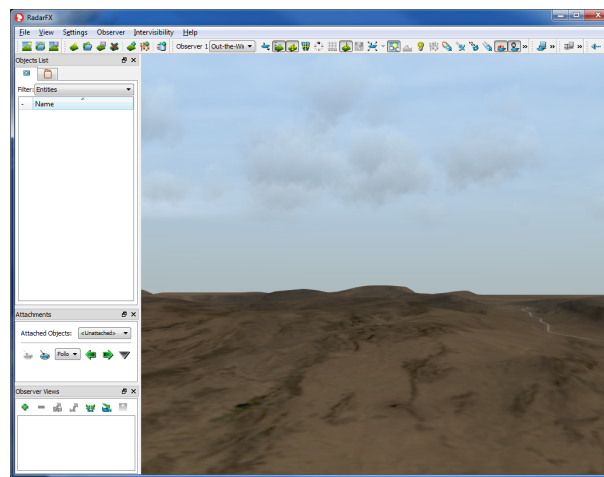

Figure 2-1. RadarFX Server
2. Select a terrain to load. RadarFX Server loads the terrain and displays it in the window (Figure 2-1).